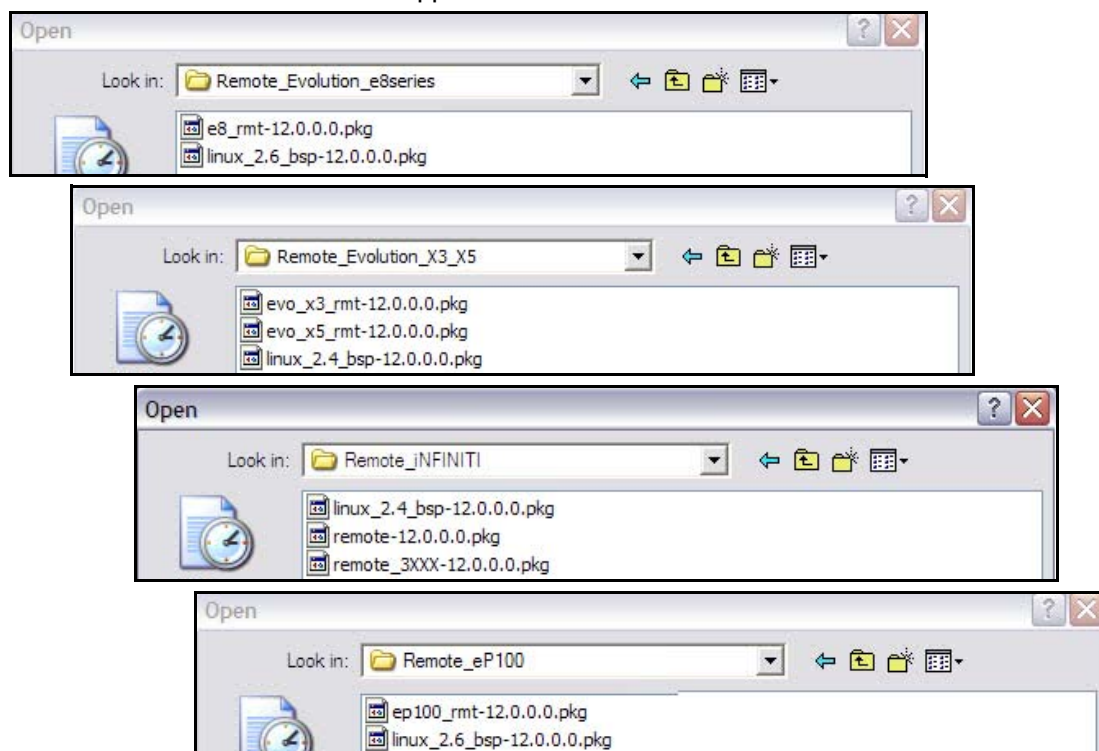

Figure 16. Remote Packages for Satellite Router Models
11. You must download two packages to your Satellite Router: the Linux Board Support Package (BSP) and the correct remote image package. Figure 16 shows the packages for each Satellite Router model supported in iDX Release 3.0.